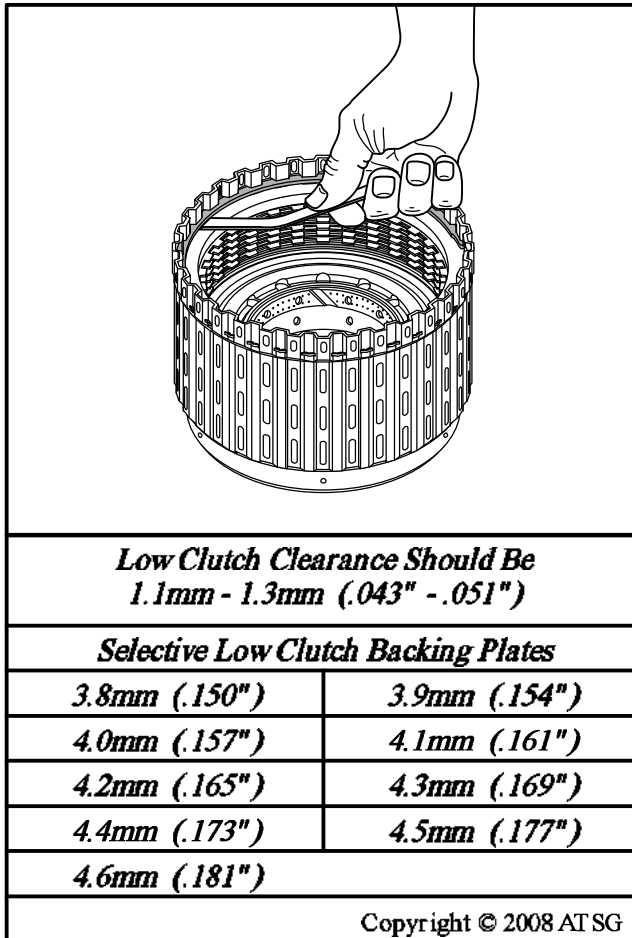

Figure 130
15. Measure low clutch clearance using a feeler gage, as shown in Figure 130.
16. Change selective backing plate as necessary using the chart in Figure 130.